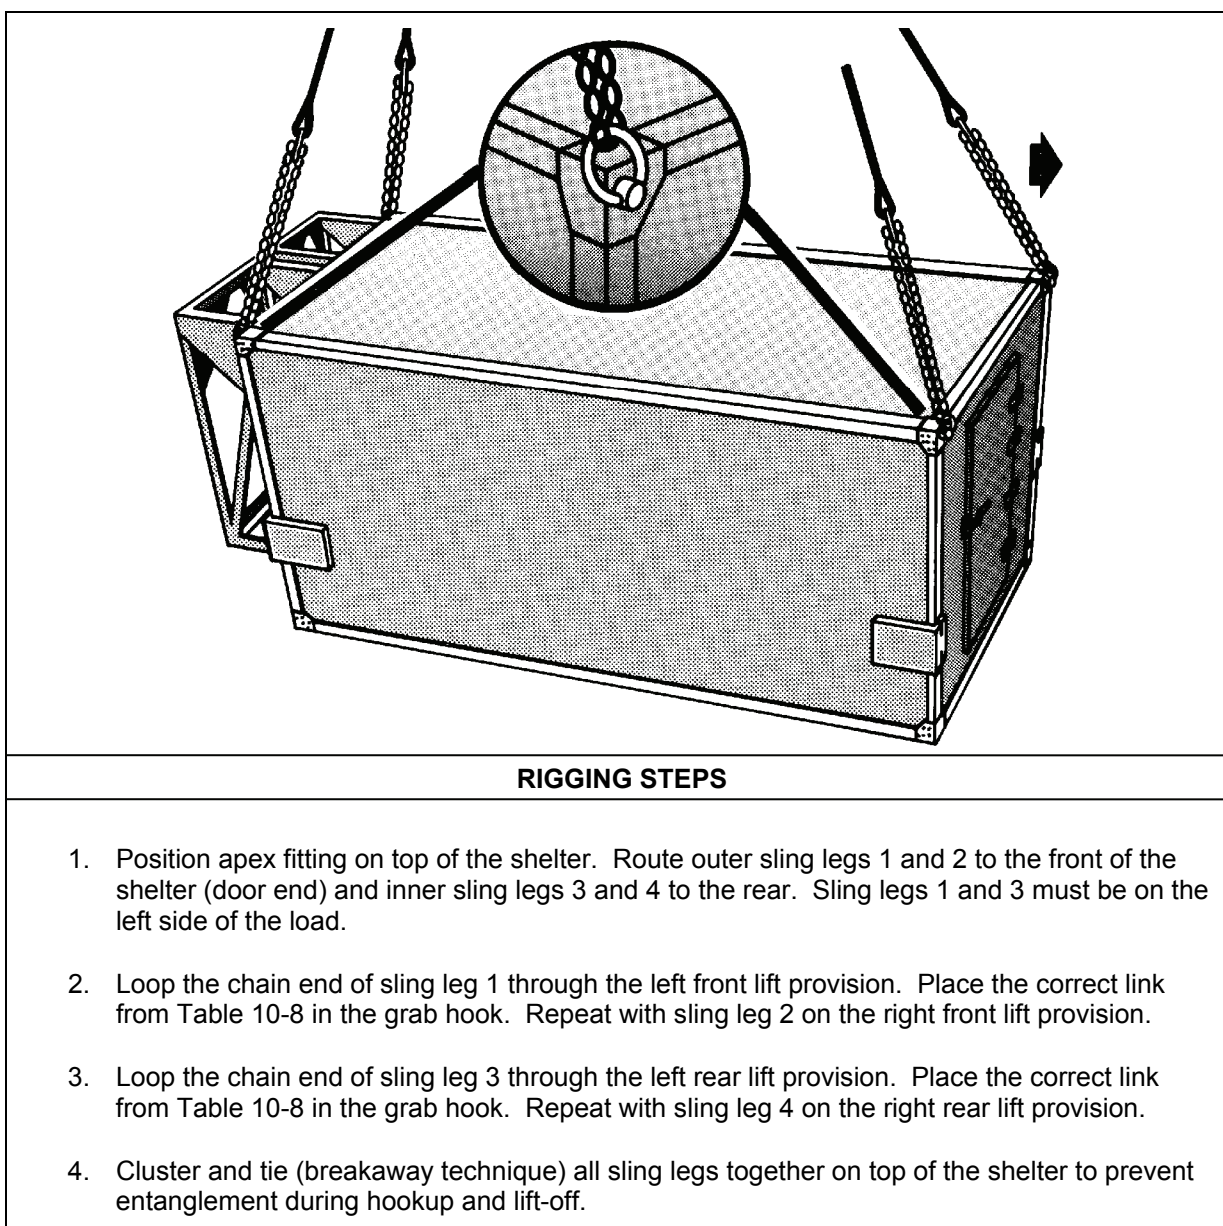

Figure 10-8. AN/TYC-5A Data Communications Terminal
- **Rigging.** Rig the load according to the steps in Figure 10-8.